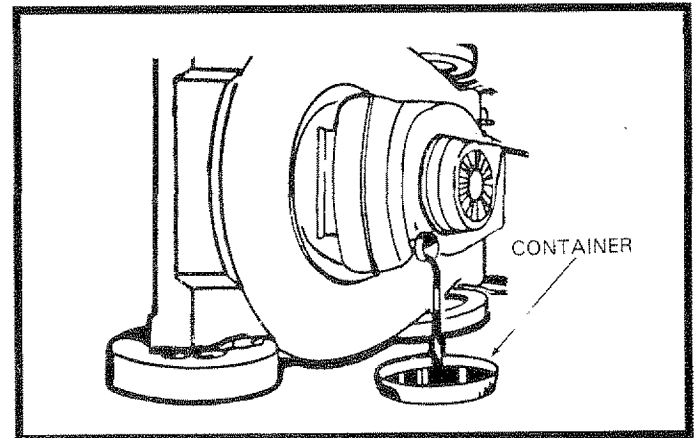

FIG. 11
- Tip lawn mower on its side as shown in Fig. 11 and drain oil into suitable container. Rock lawn mower back and forth to remove any oil trapped inside of engine.